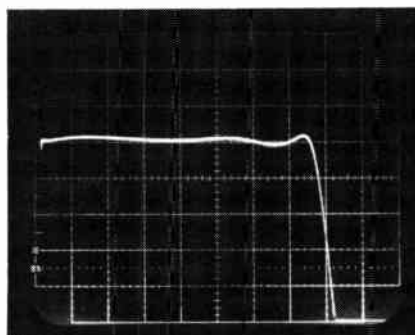

Fig. E-1: Overall Deemphasized System Response
e) You are now sweeping the entire 8100A/1 system, including the complex filters in Cards #8 and #9. Adjust R618(652) to achieve maximally flat response, similar to Fig. E-1. The response should be ± 0.75 dB or better, 50-15,000Hz.